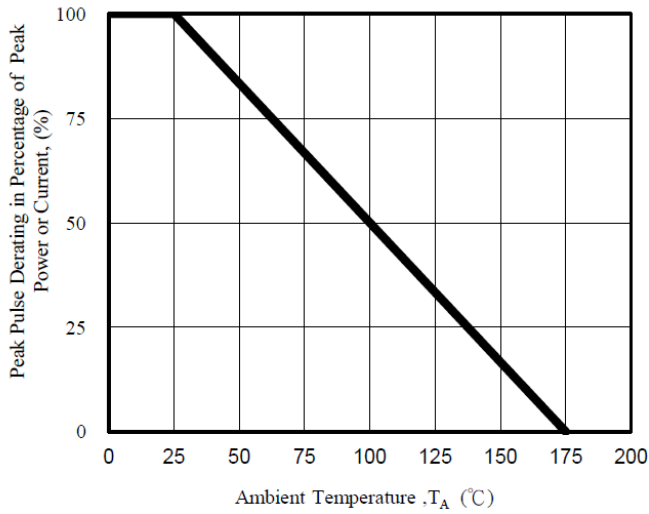
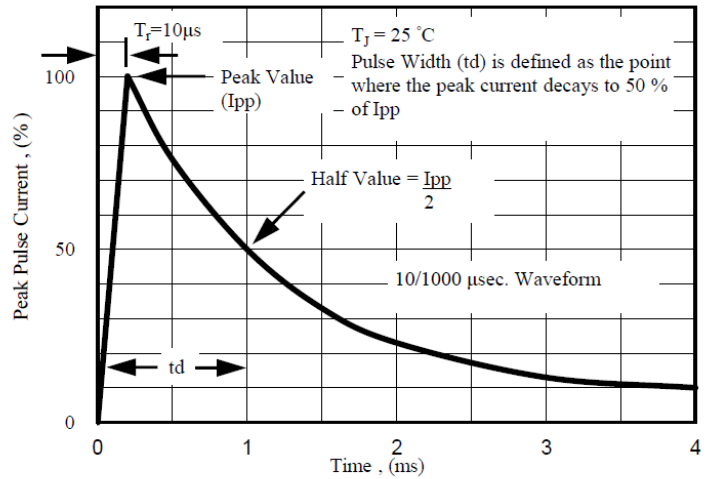

Fig. 1 - Pulse Derating Curve
Fig. 2 - Pulse Waveform
(1)Non-repetitive current pulse per Fig.2 and derated above $T_A= 25\text{ }^\circ\text{C}$ per Fig.1